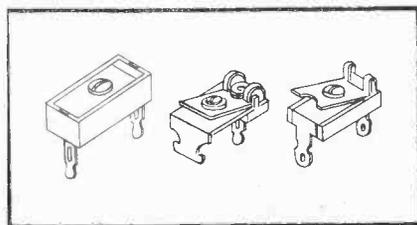

Fig. 4. Types of trimmer capacitors.
**Trimmer Condensers** of varying designs are available for use in trimming r-f and i-f stages, for oscillator padding and for general use as neutralizing and balancing condensers. Probably the most common type is the mica dielectric compression trimmer. The armature plates are separated by thin sheets of mica (0.0015"-0.003" thick) and held under tension by means of an adjusting screw. The mechanical design varies to a certain extent with the manufacturer and with the particular application. Typical designs are shown in Fig. 4.